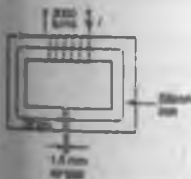

Figure 7.7
- 4 For the magnetic circuit shown in Fig. 7.7 find the current I in the coil needed to produce a flux of 0.45 mWb in the air-gap. The silicon iron magnetic circuit has a uniform cross-sectional area of 3 cm^2 and its magnetisation curve is as shown on page 71. [0.83 A]